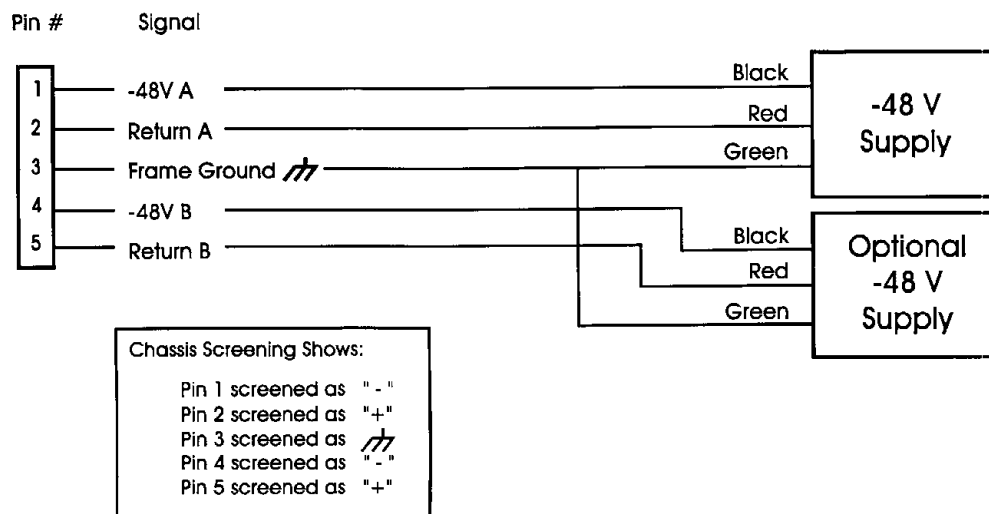

Figure 3 - Power Connector Pin-Out and Optional Adapter Wiring
Remove the power connector from the rear of the SmartCoupler (OC). Following the pin-out diagram in Figure 3, connect the ground pin to Frame ground, connect the primary power source to the -48V A/Return A leads. If available, connect the secondary power source to the -48V B/Return B leads. Once the connector is wired, plug it back into the unit.